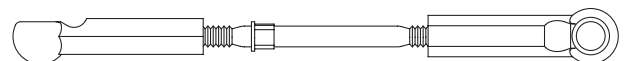

Figure 45B
1. Thread a plastic rod end (4) onto each end of a 1.625" turnbuckle (139). Tighten both rod ends (4) equally until the rod is the same length as the rod in Figure 45B. Make two of these tie rod assemblies.